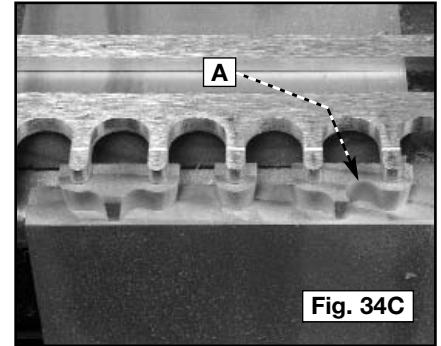

Fig. 34C
Step 4 - The joint will hide any accidental excess material cut (A) Fig. 34C.